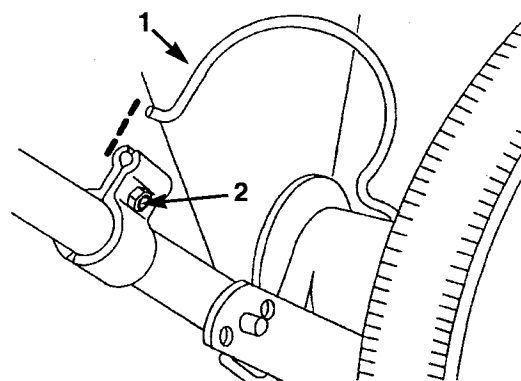

Figure 26
- E.** Rotate the hold-down spring over the axle support and toward the clamp (Fig. 26). Now move the clamp so its back edge lines up with the end of the hold-down spring and secure the clamp in place by tightening the lock nut.